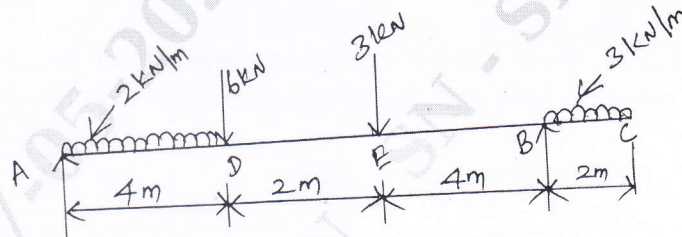

Fig. Q6(b)
- b. Draw shear force and bending moment diagram as shown in Fig. Q6(b) indicating the principal values.